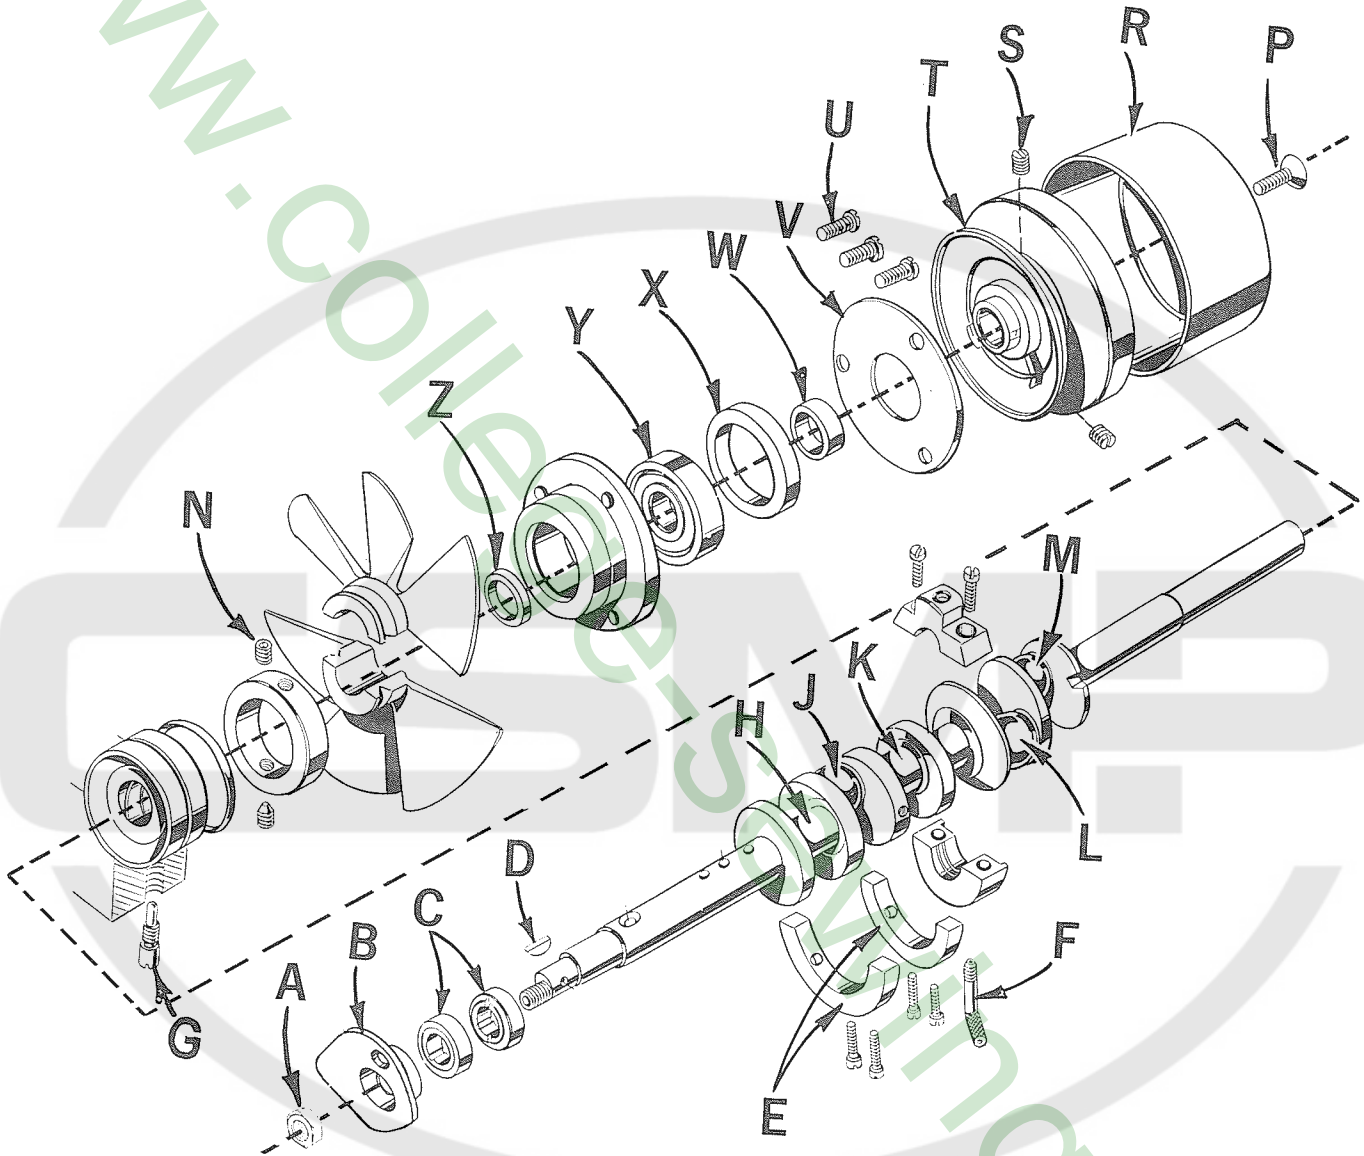
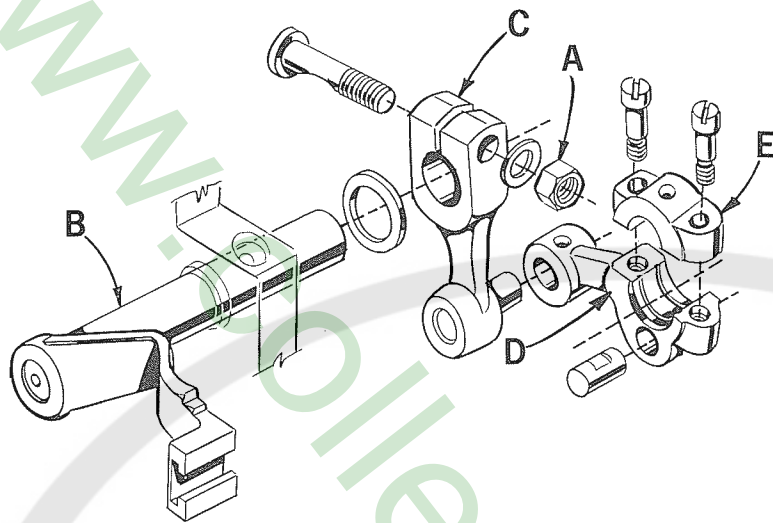

Fig. 24
Fig. 25
3. Remove nut (A, Fig. 24), 401 loop thread take-up (B) and eccentrics (C).
4. Remove key (D).
5. Remove two counterweights (E). Identify these counterweights so that they will be re-assembled in the proper places.
6. Remove oil tube (F) which holds crankshaft split bearing and oil pump, and the screw (G) which holds the inner right crankshaft bearing. They are accessible through bottom of bed casting.
14. Loosen clamp nut (A, Fig. 25) which holds the upper knife driving arm (B). Access to clamp nut is through top cover. Draw driving arm to the left until upper knife driving lever (C) and connecting rod (D) drop, allowing removal of bearing cap (E). This is at bearing point (K, Fig. 24) on crankshaft. Observe same precautions when reassembling cap as described in paragraph 7.
15. Loosen two screws (N) in fan collar; remove both halves of cooling fan.
16. Remove screw (P); take off pulley cap (R).
17. Loosen two screws (S); remove pulley (T).
18. Remove three screws (U); take off bearing retaining plate (V); also, spacer collars (W) and (X) may be removed at this time.
20. If necessary to replace ball bearing (Y), it can be pressed off shaft on an arbor press. In replacing the bearing it must be pressed on carefully until it seats against ground thrust washer (Z).